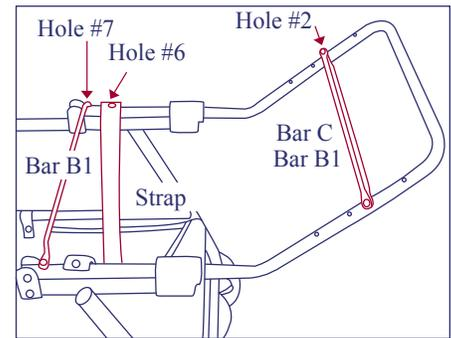

Fig. 1
2. Attach Crossbar C on top of Crossbar B1, with the bent side of B1 facing downward, to the Double Snap-N-Go® frame using the two holes labeled #2. Use the two long screws provided separately. Please see figure 1.
3. Attach Crossbar B1, taken from the rear of the Double Snap-N-Go® frame, to the Double Snap-N-Go® frame using the two holes labeled #7. Use the two screws that you removed in step 1. Please see figure 1.